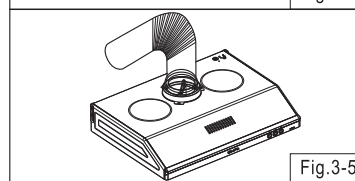

Fig.3-5
5. Insert one end of aluminum pipe into the pipe adapter. Extend the aluminum pipe to the required length. Insert the other end of the pipe to the air venting hole.(Fig.3-5)